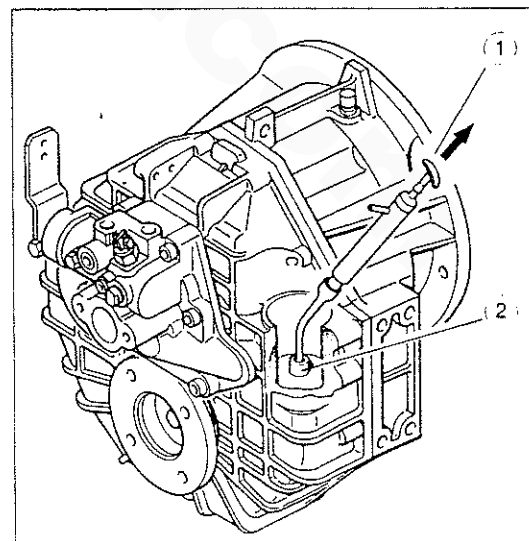

Figure V-5
2.2.1 Push the hose of a suction pump (figure V-5, item 1) through the suction pipe (figure V-5, item 2) that the filter rests on down to bottom of the housing and such the fluid approx. 3.7 US-qts. (3.5 liters) out.